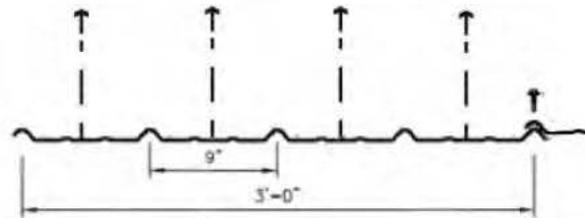

Figure 3
**Step 2.** The metal roofing is then screwed into the strapping. Screws are positioned on the flats between every ridge and on the ridge only where two pieces of metal overlap, as shown in figure 3.